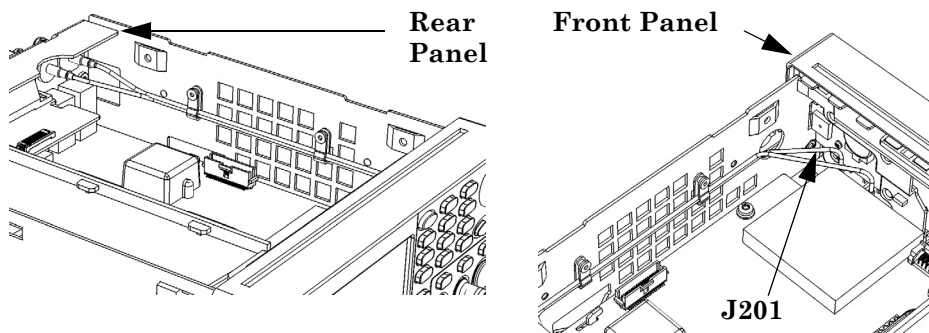

Figure 4-7. Option 201 Rear Input Channels 1 and 2
- 2 Connect the gold-colored push-on connector end of the supplied RF cable to the appropriate connector on the motherboard close to the front panel. (J201 is on the left.) Refer to Figure 4-7.
- 9 Install the supplied cable clamp(s) as shown in Figure 4-7.